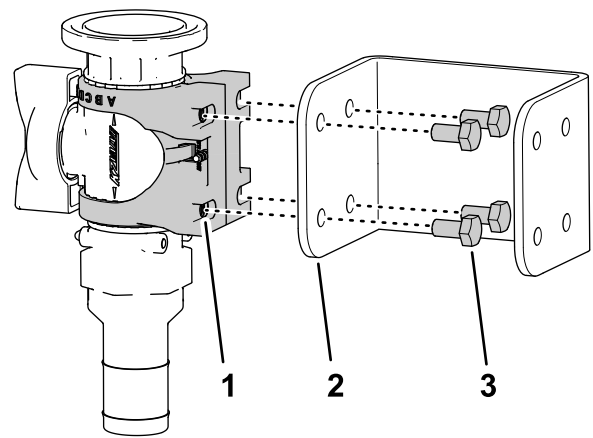

Figure 41
5. Assemble the valve mount to the control-valve bracket (Figure 41) with the 4 flange-head bolts (M6 x 12 mm) and 4 flat washers; torque the bolts to 10 to 12 N·m (86 to 106 in-lb).